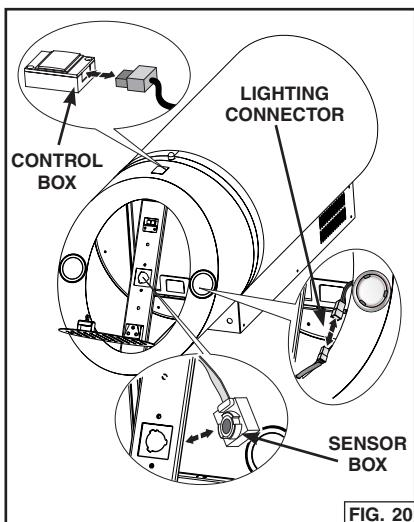

FIG. 20
- a. Connect control box connector. Fig. 20.
- b. Connect lighting connector. Fig. 20.
- c. Mount the sensor box. Fig. 20.